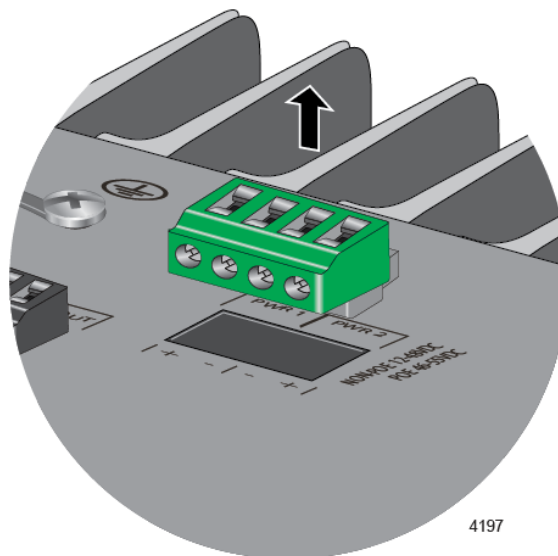

Figure 43. Removing the PWR 1 - PWR 2 Cable Connector
3. Remove the PWR 1 - PWR 2 connector from the top panel. Refer to Figure 43.